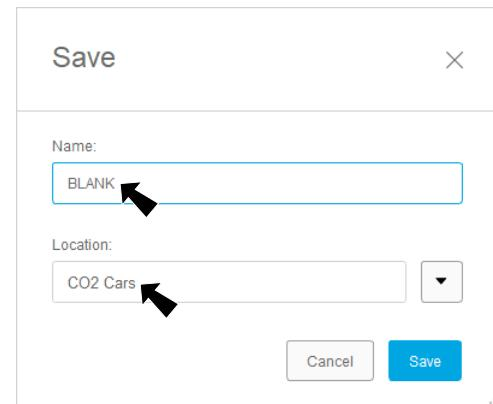

Fig. 10
Step 5. Key-in **BLANK** for filename, Fig. 10. Confirm Location is CO2 Cars. Click Save.